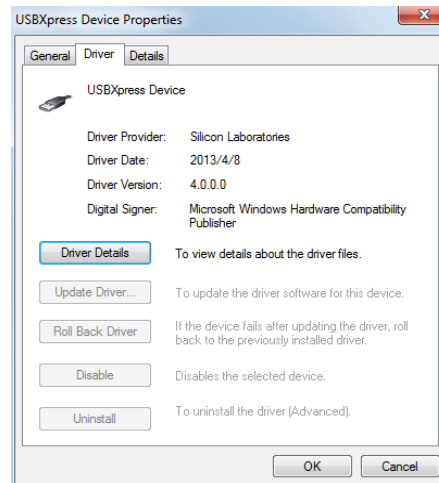

Figure 18: Correct Driver Version
If the PC is running Windows 10, check the driver version of USBXpress Device. Windows 10 automatically installs the older USB driver, which is not compatible. The correct driver version is 4.0.0.0 (see Figure 18).
2. Connect the EVKT-USBI2C-02 or EVKT-USBSPi-00 communication interface to the PC with the USB cable (see Figure 18).